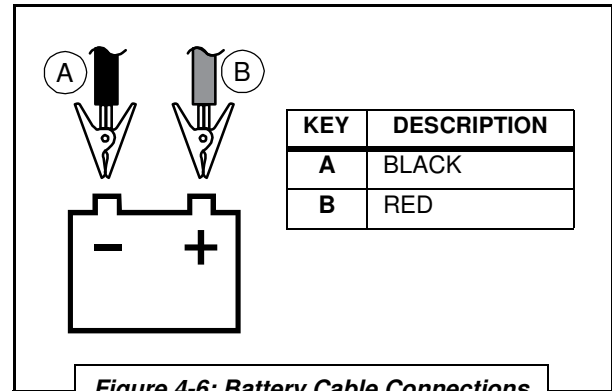

Figure 4-6: Battery Cable Connections
2. Attach the clamps of the battery charge cable to the battery to be charged. RED to the positive terminal, BLACK to the negative terminal (**Figure 4-6**).